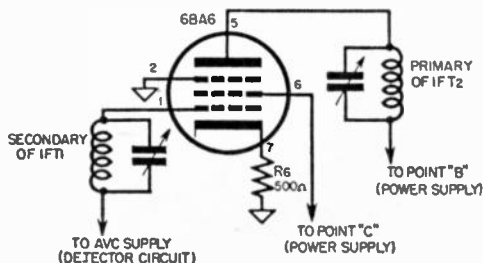

Fig. 8-29. I. F. amplifier circuit.
f) I.F. Amplifier Circuit. See Figure 8-29.